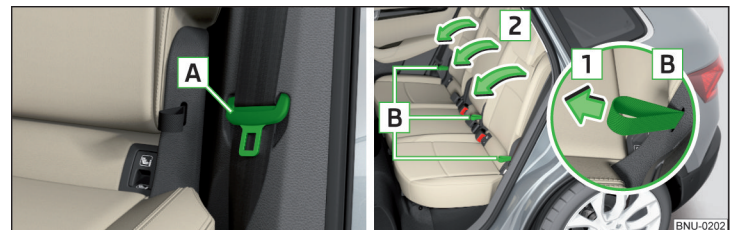

Fig. 89 Position the safety position of the belt / seat backrest
- › Insert the belt buckle **A** of the seat belt into the opening in the side panel » Fig. 89.
- › Pull on the loop **B** in the direction of the arrow **1** » Fig. 89 and hold it.
- › Pull on the loop **B** next to the centre seat in the direction of arrow **1** and fold the seat backrest forwards in direction of arrow **2** » Fig. 89. The seat backrest can be used as an armrest.